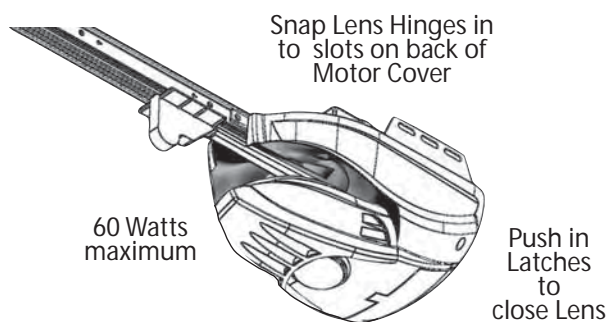

Figure 14 Install Lens Cover and Light Bulbs
- Install two 60 Watt light bulbs (not included) into Light Sockets (**Figure 14**):